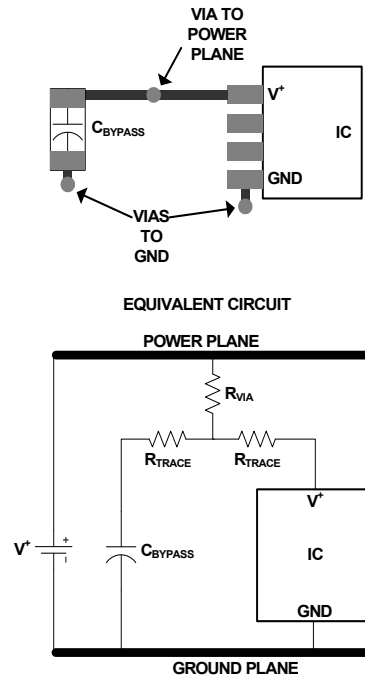
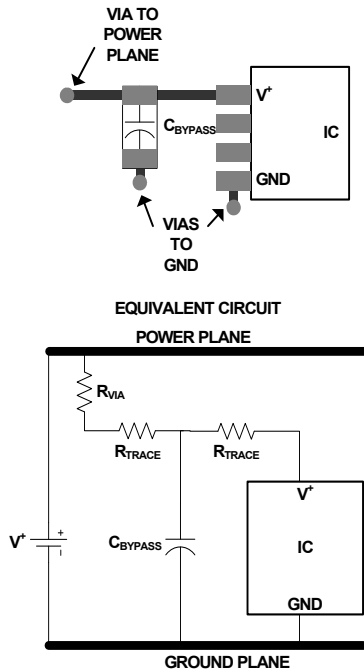

FIGURE 12. SUB-OPTIMAL BYPASS CAPACITOR LAYOUT
FIGURE 13. OPTIMAL ("T") BYPASS CAPACITOR LAYOUT
- Ideally each supply should be bypassed to ground with a 0.1μF capacitor. Minimize trace length and vias to minimize inductance and maximize noise rejection. Figure 12 demonstrates a common but non-ideal PCB layout and its equivalent circuit. The additional trace resistance between the bypass capacitor and the power supply/IC reduces its effectiveness. Figure 13 demonstrates a better layout. In this case there is still series trace resistance (it is impossible to completely eliminate it), but now it is being put to good use, as part of a “T” filter, attenuating supply noise before it gets to the IC, and reducing the amount of IC-generated noise that gets injected into the supply. Follow the good supply bypassing rules shown in Figure 13 to the extent possible.